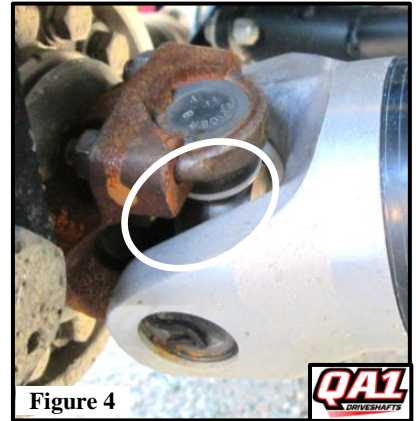

Figure 4
- c) Note in **Figure 4** where the U-bolts can crash under extreme decel or accel conditions. This is where to watch for interference between the U-bolt and tube yoke.